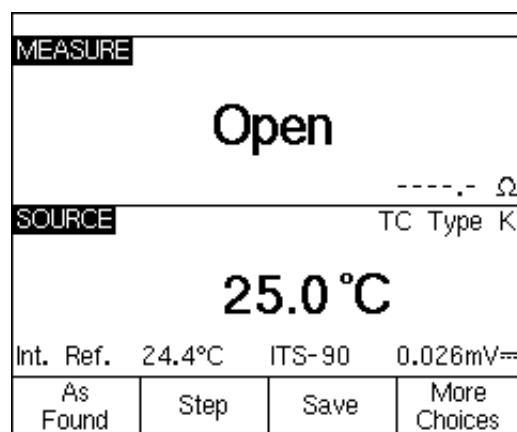

Figure 2. MEASURE/SOURCE split screen, contacts open.
- e. Depress the "MEAS/SOURCE" key to obtain the split screen display. The display of the 74X should be as per Figure 2.